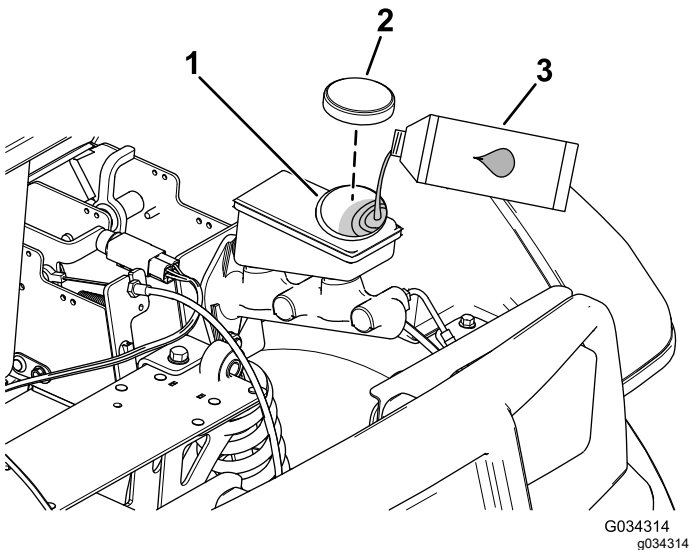

Figure 53
2. Raise the hood to gain access to the master-brake cylinder and reservoir (Figure 53).
- A. Clean the area around the reservoir cap and remove the cap (Figure 53).
- C. Install the reservoir cap (Figure 53).